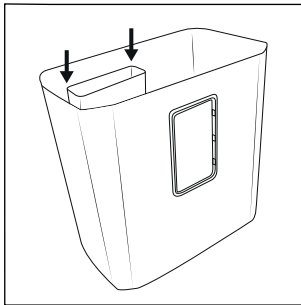

Fig. 1
- ◆ Place the small waste collector **10** in the large waste collector **12**. To do this, push the small waste collector **10** down along the guide rails in the large waste collector bin **12** until it is fully engaged (see fig. 1).
- ◆ Place the small waste collector **10** back in the large waste collector **12** (see fig. 1).